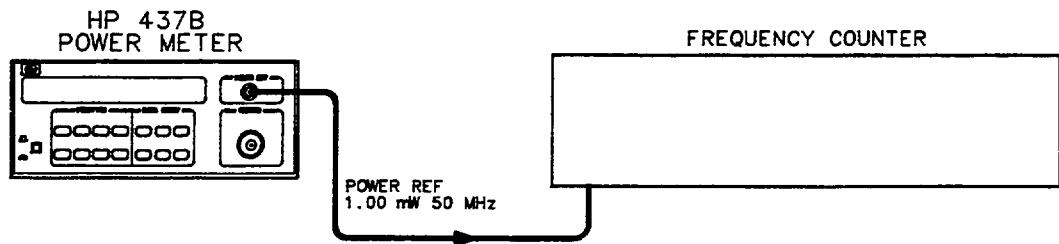

Figure 5-3. Power Reference Oscillator Frequency Adjustment Setup
1. Connect the equipment as shown in Figure 5-3. Set up the counter to measure frequency.